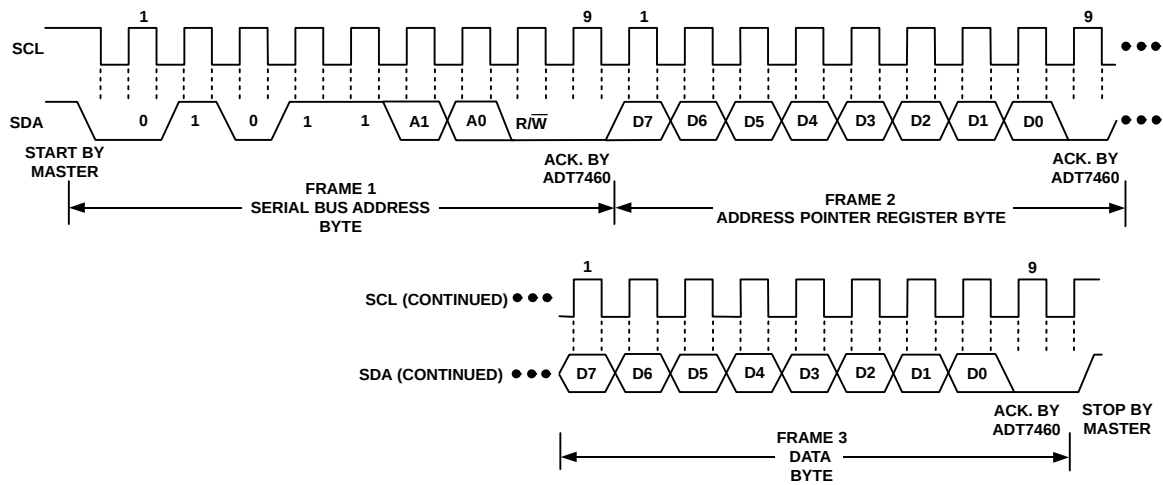
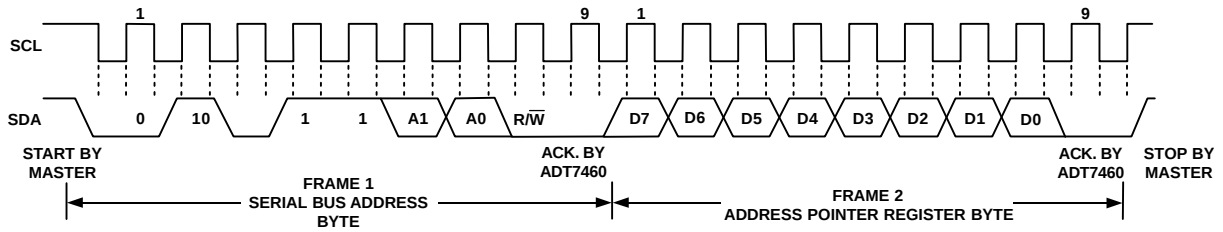
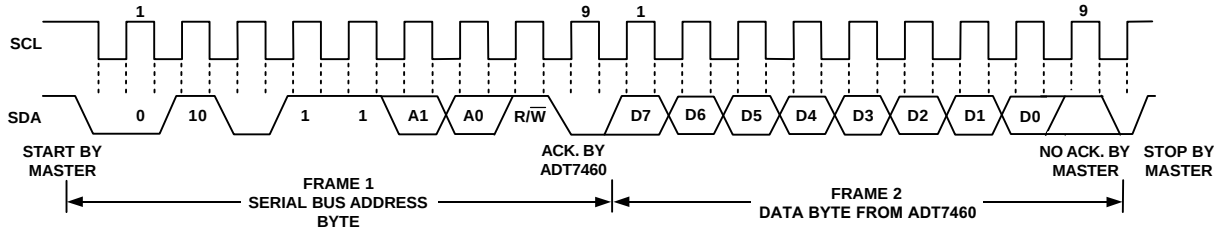

Figure 17. Writing a Register Address to the Address Pointer Register, then Writing Data to the Selected Register
Figure 18. Writing to the Address Pointer Register Only
Figure 19. Reading Data from a Previously Selected Register
This is illustrated in Figure 17. The device address is sent over the bus followed by R/W being set to 0. This is followed by two data bytes. The first data byte is the address of the internal data register to be written to, which is stored in the address pointer register. The second data byte is the data to be written to the internal data register.
- ◆ If the ADT7460's address pointer register value is unknown or not the desired value, it is first necessary to set it to the correct value before data can be read from the desired data register. This is done by performing a write to the ADT7460 as before, but only the data byte containing the register address is sent because data is not to be written to the register. This is shown in Figure 18. A read operation is then performed, consisting of the serial bus address, R/W bit set to 1, followed by the data byte read from the data register. This is shown in Figure 19.
- ◆ If the address pointer register is known to be already at the desired address, data can be read from the corresponding data register without first writing to the address pointer register, so Figure 18 can be omitted.
In Figure 17 and Figure 19, the serial bus address is shown as the default value 01011(A1) (A0), where A1 and A0 are set by the address select mode function previously defined.